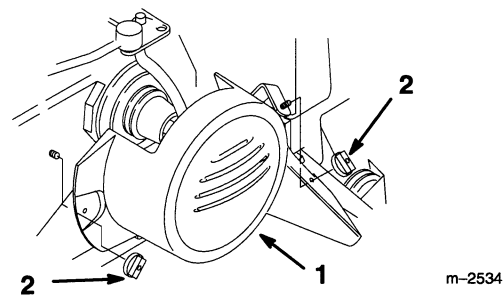

Figure 31
1. Remove the two wing nuts and belt cover from the tractor (Fig. 31).